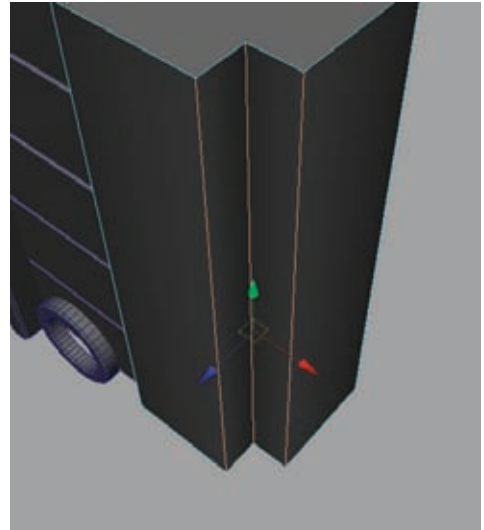

Figure 5.11
5. Select the center edge and move it inward, forming a square-shaped cavity that runs along the entire column like in Figure 5.11.